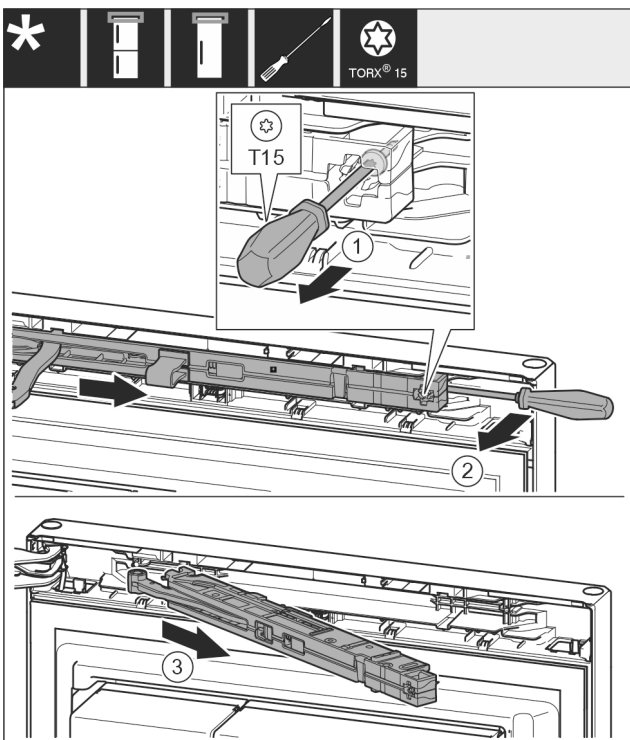

Fig. 11
- ▶ Undo the soft stop mechanism screw with a T15 screwdriver approx. 14 mm. Fig. 11 (1)
- ▶ Insert a screwdriver behind the soft stop mechanism on the handle side and rotate the unit forwards. Fig. 11 (2)
- ▶ Pull out the soft stop unit. Fig. 11 (3)